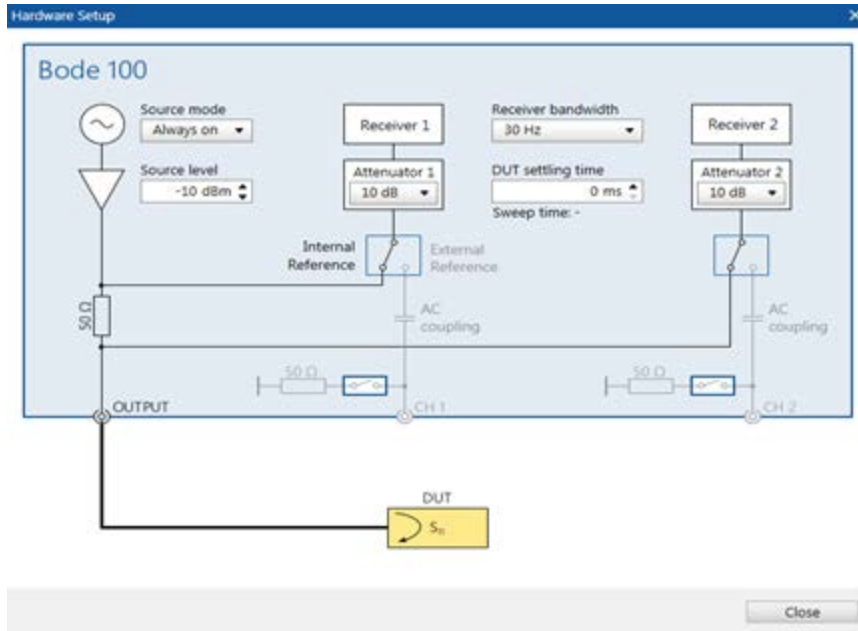

Figure 7. Hardware setup in Bode 100.
3. To configure the **Hardware Setup**, go to **Home | Impedance/Reflection** and only turn the switch of CH2 to the ON position; only use this channel for  $V_{IN}$  and  $V_{OUT}$  of the MAX38902A/B, one at a time. Note that either CH1 or CH2 can be used for this measurement, even though we use CH2 here (see **Figure7**).